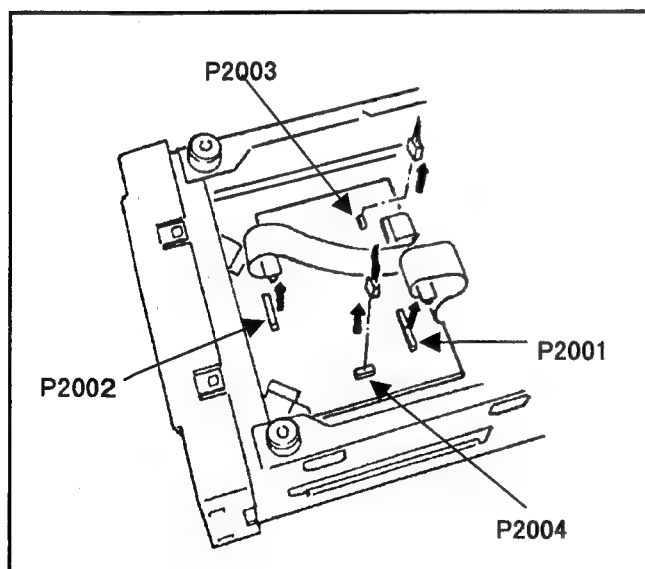

Fig. 6-1-1
4. Disconnect the connector P2001, P2002, P2003 and P2004 on the Servo P.C.Board as shown in Figure 6-1-1.